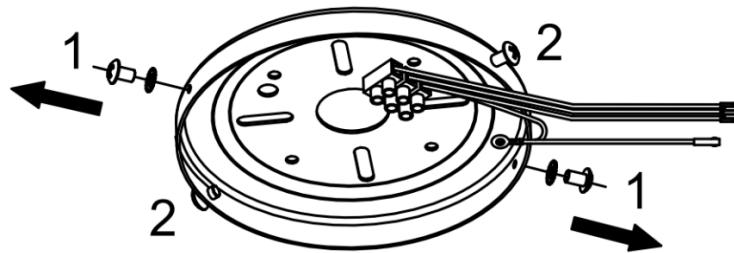

Fig. 8
- There are 4 screws pre-installed on the mounting bracket: (Fig.8)
- Loosen two canopy screws (2) by half thread from the mounting bracket. (For L-shape slot on canopy to be mounted).
- Loosen two canopy screws with star washer (1) and remove from the mounting bracket.